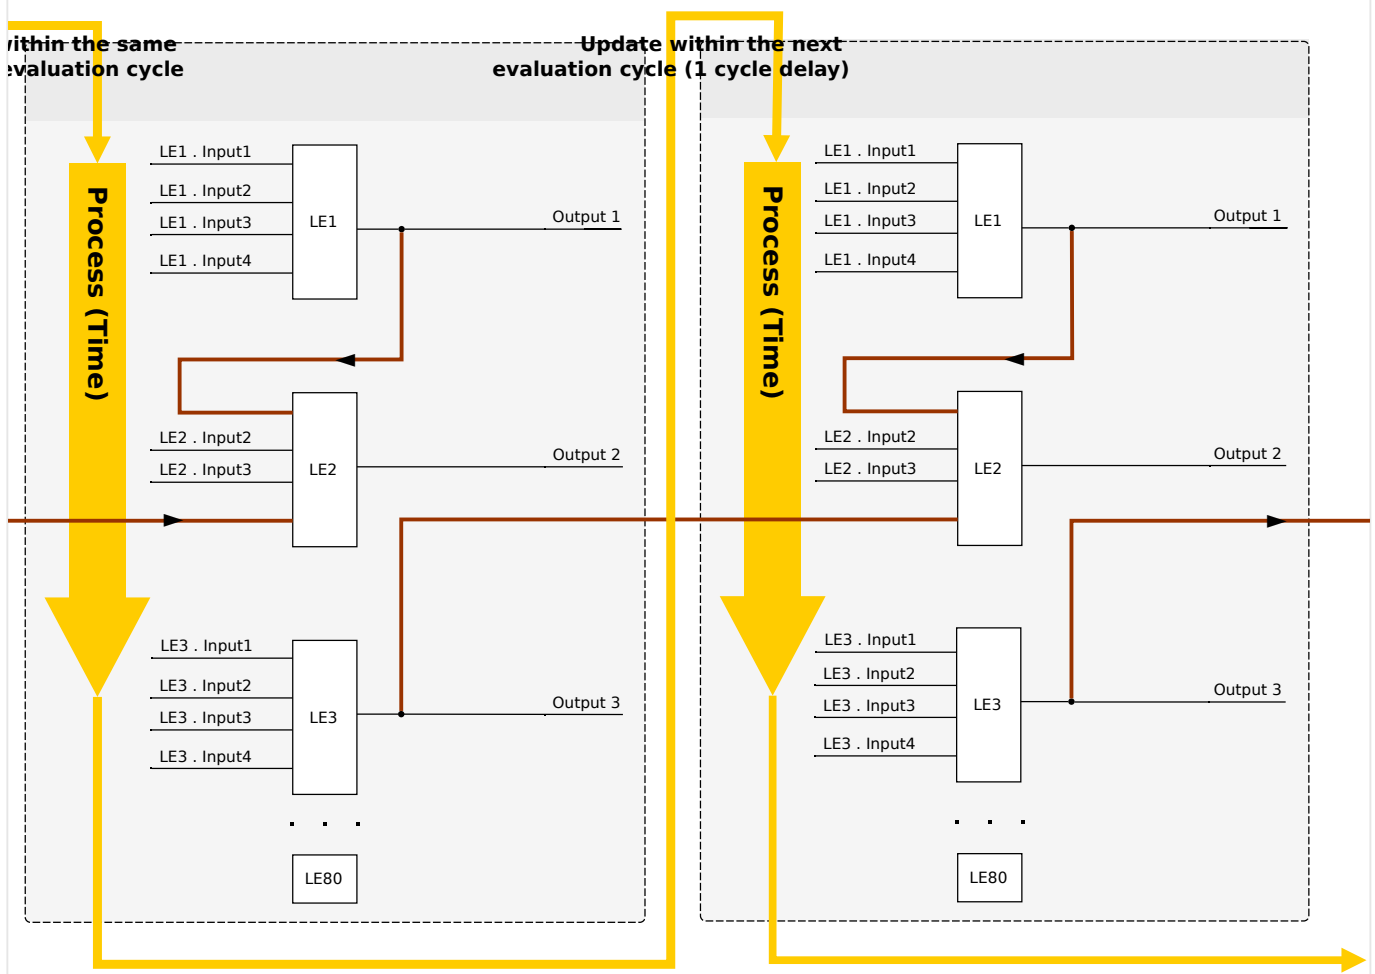

Fig. 135: Cascading in Descending Order.
- **Descending** sequence means that some output is fed into the input of a logic equation with **lower** number. For instance, diagram ↪Fig. 135 shows an example where the result of Logic Equation LE3 is used as an input of Logic Equation LE2.
Both ascending and descending sequences may be used and combined one with the other, with no immediate difference. However, due to the evaluation of all equations in ascending order the actual run-time values that are fed in at the input of an equation will have a different “age”, as is shown in ↪Fig. 134 and ↪Fig. 135 below.
In the example shown in Fig. 135 above, “Logic Equation 2” uses the output states of two other equations, “Logic Equation 1” and “Logic Equation 3”. The result of “Logic Equation 1” is used in ascending order and has therefore been evaluated within the same process cycle. The result of “Logic Equation 3” is used in descending order and has therefore been evaluated in the previous process cycle.